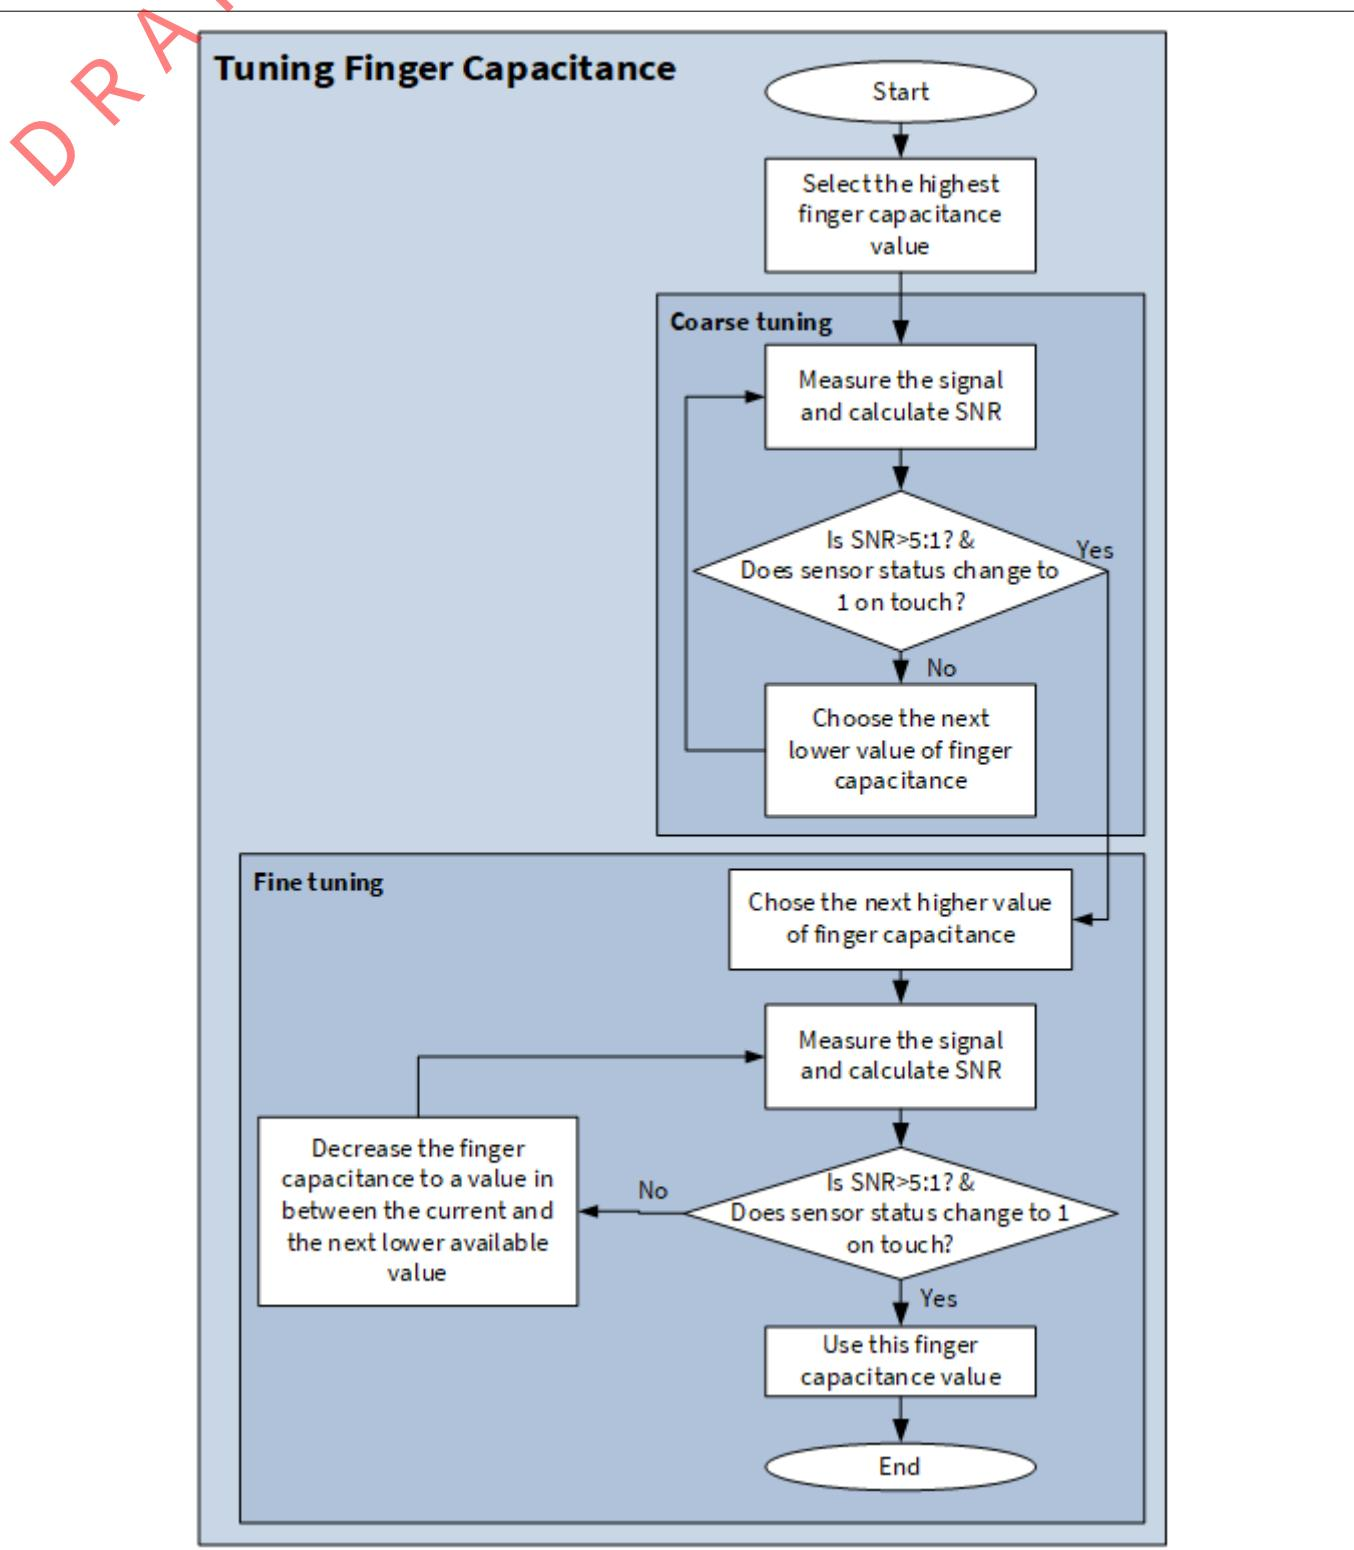

Figure 245 Using SmartSense auto-tuning based CAPSENSE™ project in PSoC™ Creator
- ~~2.~~ Decrease the finger capacitance parameter value until the button status changes to '1' on touch and $\text{SNR} > 5$. Figure 245 shows the detailed steps to find the right value for the Finger capacitance parameter in your design